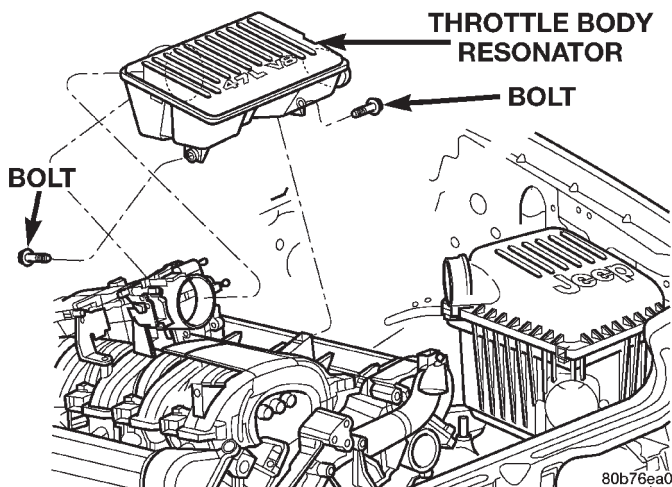

Fig. 34 Throttle Body Resonator
- (1) Disconnect negative cable from battery.
- (2) Remove air cleaner housing and throttle body resonator (Fig. 34).